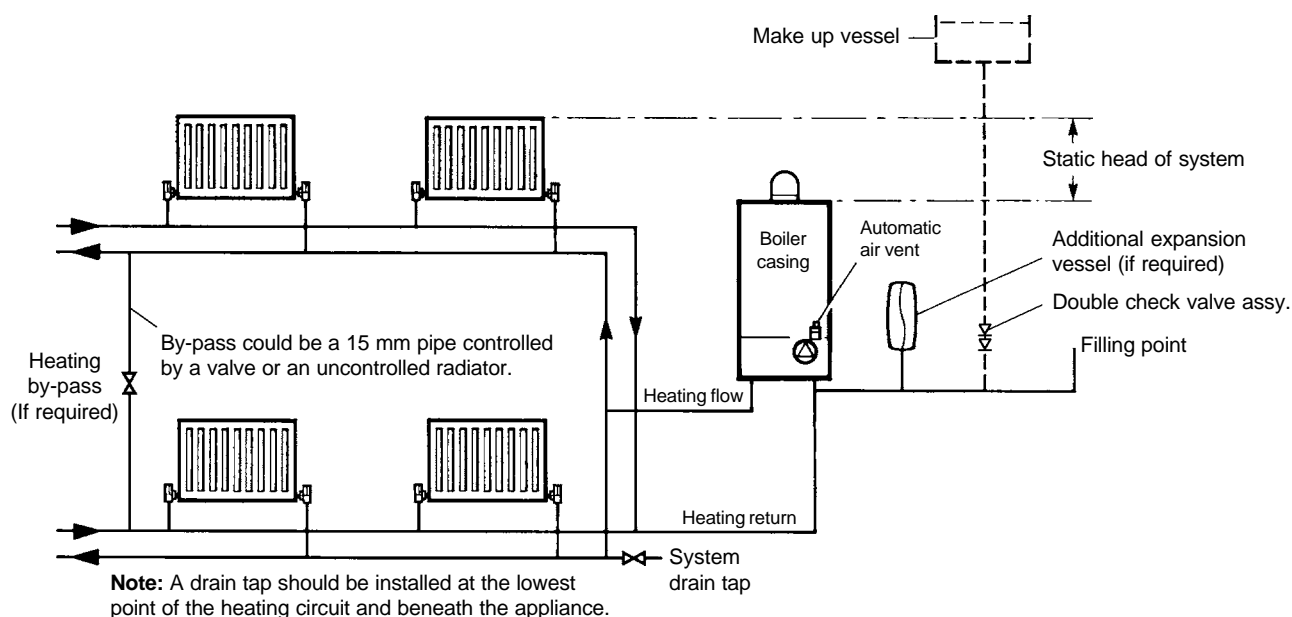
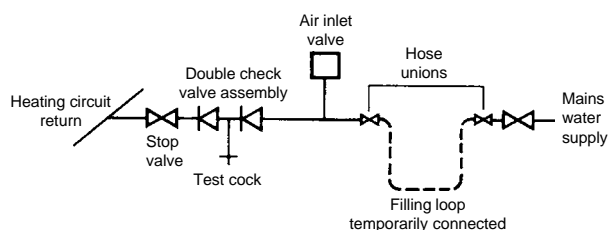
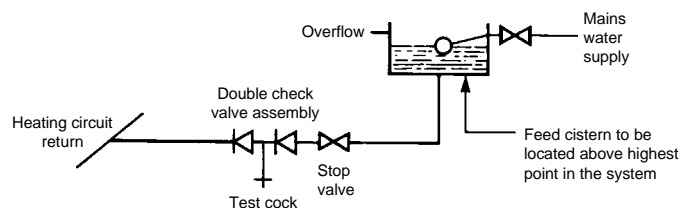

Fig. 5
Fig. 6
Fig. 7
3.7 CENTRAL HEATING SYSTEM - Fig. 5
System volume - The expansion vessel incorporated into the boiler is suitable for a sealed heating system with a maximum water content of 80 litres (18 gal). For guidance on water contents contact Alpha Therm Ltd. for Technical Data Sheet 15. Above 80 litres, consideration should be given to fitting an additional expansion vessel fitted in the position shown in Fig. 5. To check correct operation of the expansion vessel(s) the system pressure should not be more than 2.5 bar when the system is at maximum operating temperature (for further guidance refer to BS 7074:1).
3.8 FILLING THE CENTRAL HEATING SYSTEM - Figs. 6, 7
The system design pressure (cold) should be set to 1.0 bar. This pressure is equivalent to a static head (see Fig. 5) of 10.2 metres of water. Provision should be made to replace water lost from the system. This can be by manual or automatic means, as shown in Figs. 6 and 7. The position for connecting an automatic make-up vessel is indicated in Fig. 5. A double check valve assembly must be used, as shown in Fig. 7.
Filling of the system must be carried out in a manner approved by the local Water Undertaking. Where allowed, the system may be filled via a temporary connection as shown in Fig. 6. After filling, always disconnect the flexible hose of the filling loop.